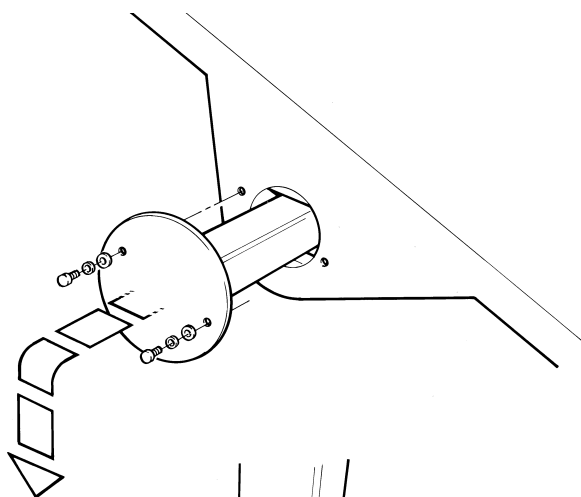

Fig 22
- Remove retaining bolts from stand endplates, and slide stands out from cross tube, both sides of machine, Fig 22.